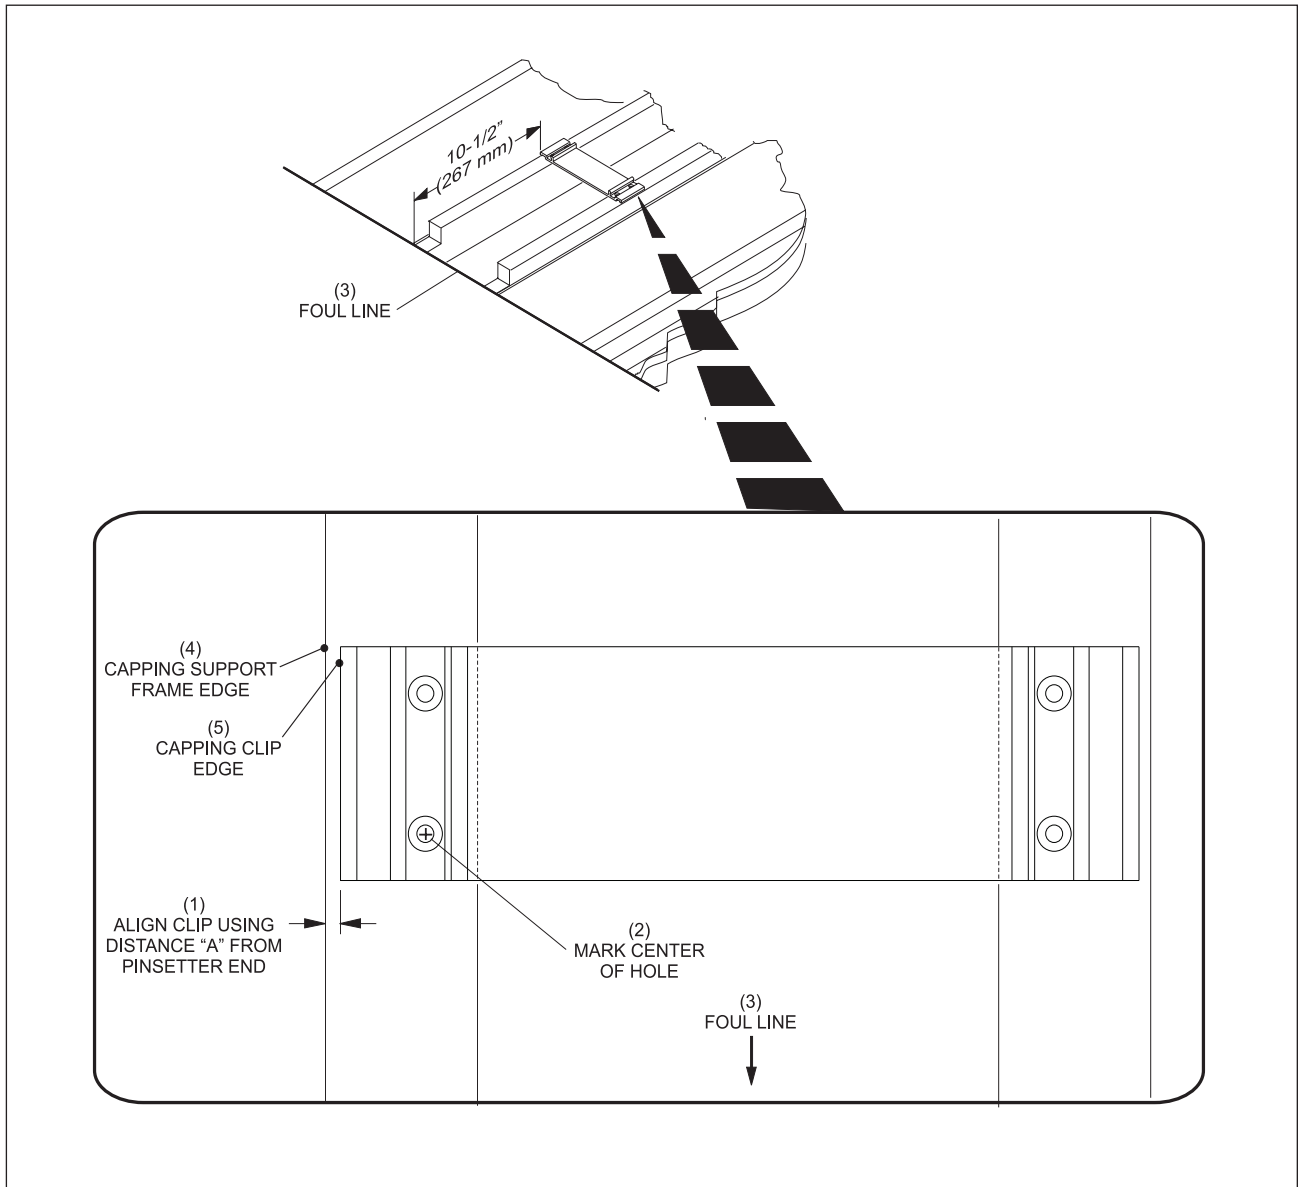

Figure 22. Layout Approach End of Support Frame
2. Center capping clip on capping support creating equal distance between the clip edges and the outside edges of the capping support Frame. Refer to *Figure 22*.